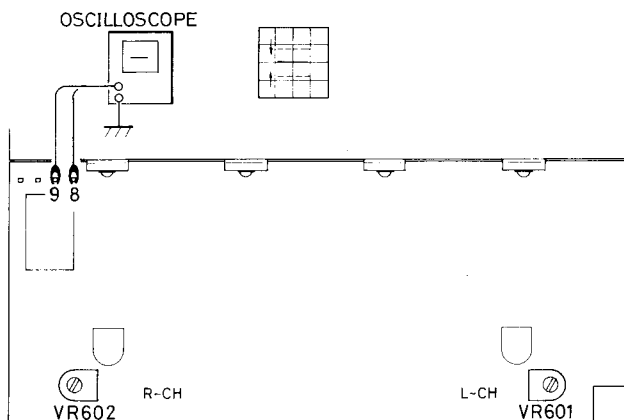

Fig. 1
2. Connect the oscilloscope to pin 9 (8 for R-ch) on H-AF-117 p-c board. Set volume control of the amplifier to minimum position. Turn on the power. When DC output appears on the screen (the trace will shift upwards or downwards as shown in Fig. 1), adjust potentiometer VR601 (VR602 for R-ch) on H-AF-117 p-c board so that the DC voltage present at the test point is $0V \pm 50mV$.